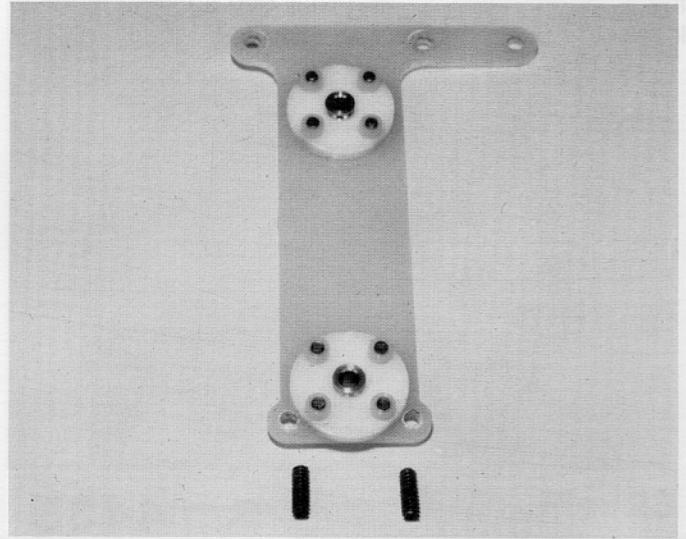

**Fig. 13**
□ **Figs. 13 & 14**—Now assemble and mount the second rear socket assembly like you did the first one. Except in this socket, the ball **MUST BE VERY FREE, BUT NOT LOOSE**. Now see if the ball is **PERFECTLY FREE**. If it is, good, leave as is.